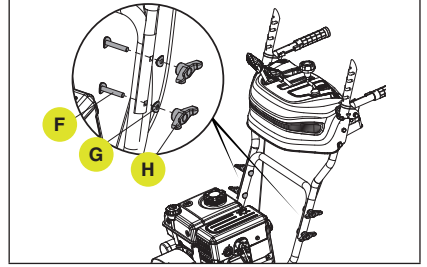

Figure 3
2. Connect the upper and lower handle with bolts (F), washers (G) and locking knobs (H) (Fig. 3). Torque until snug. Do not overtighten.